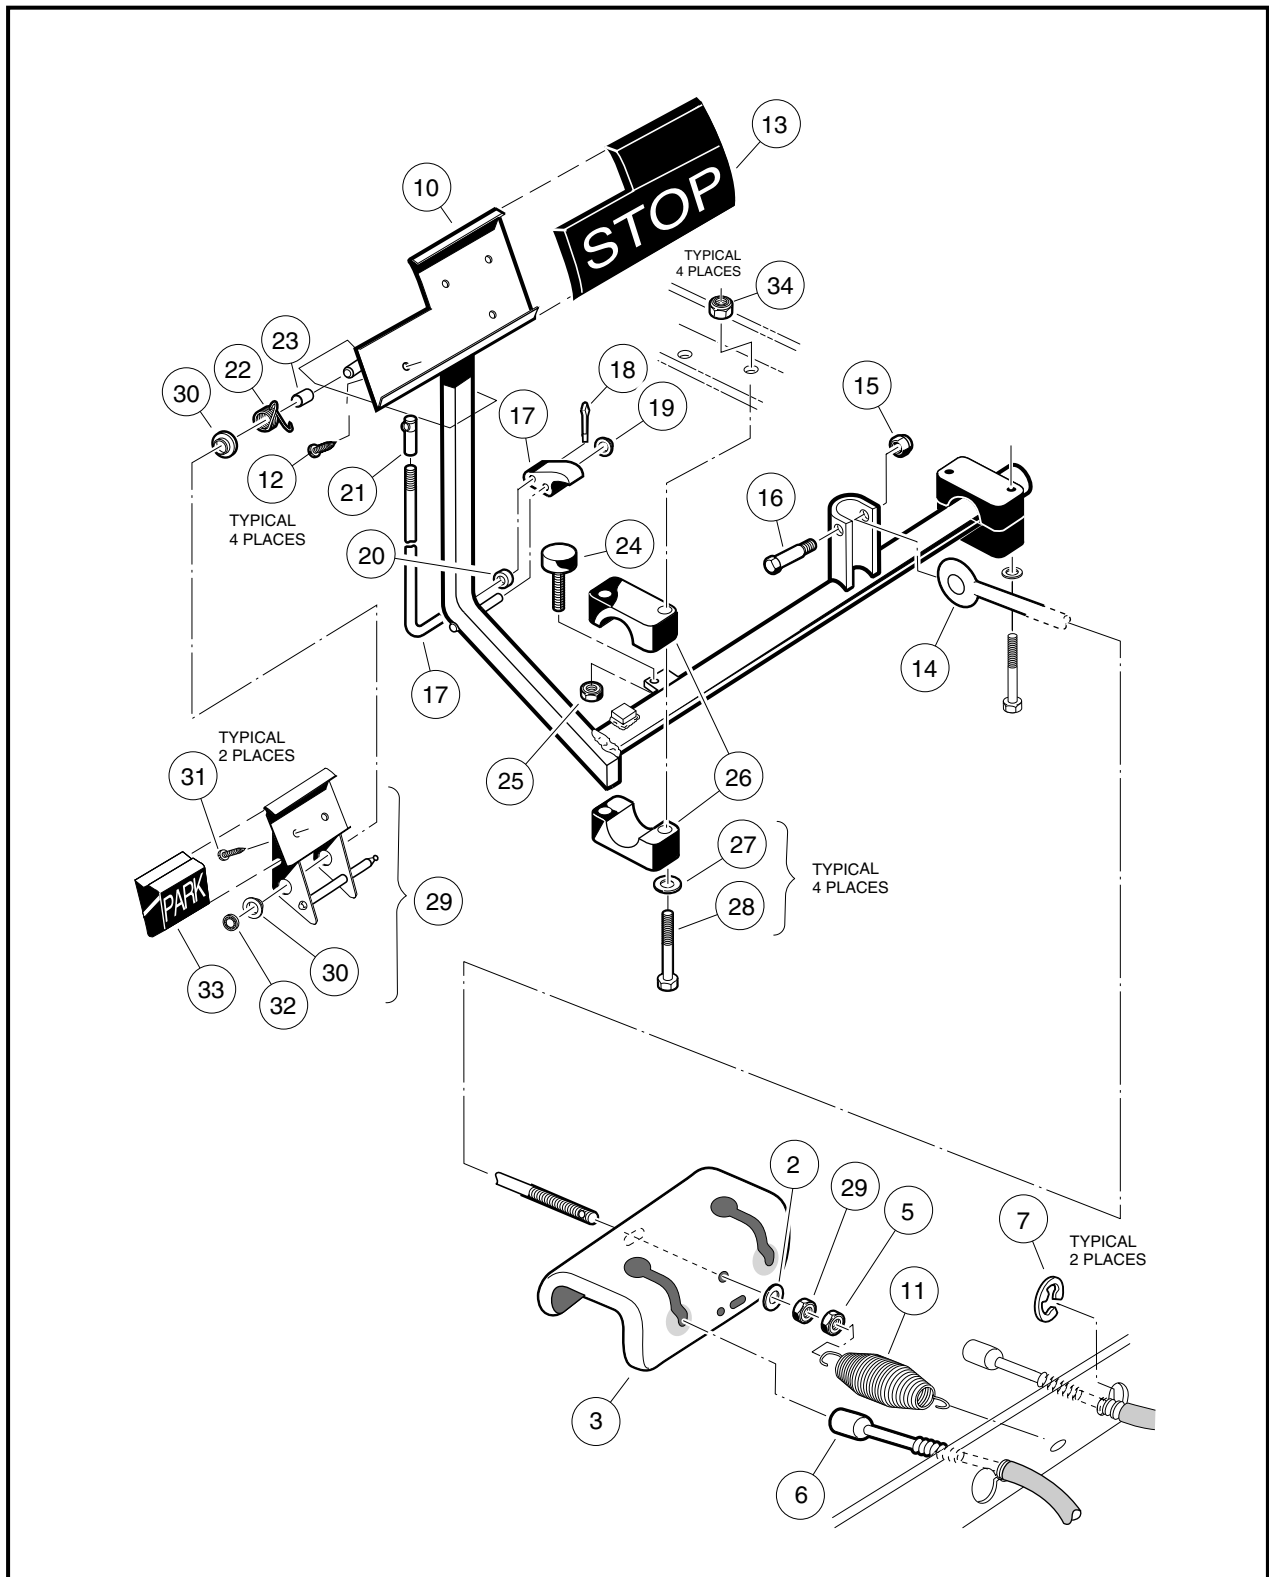
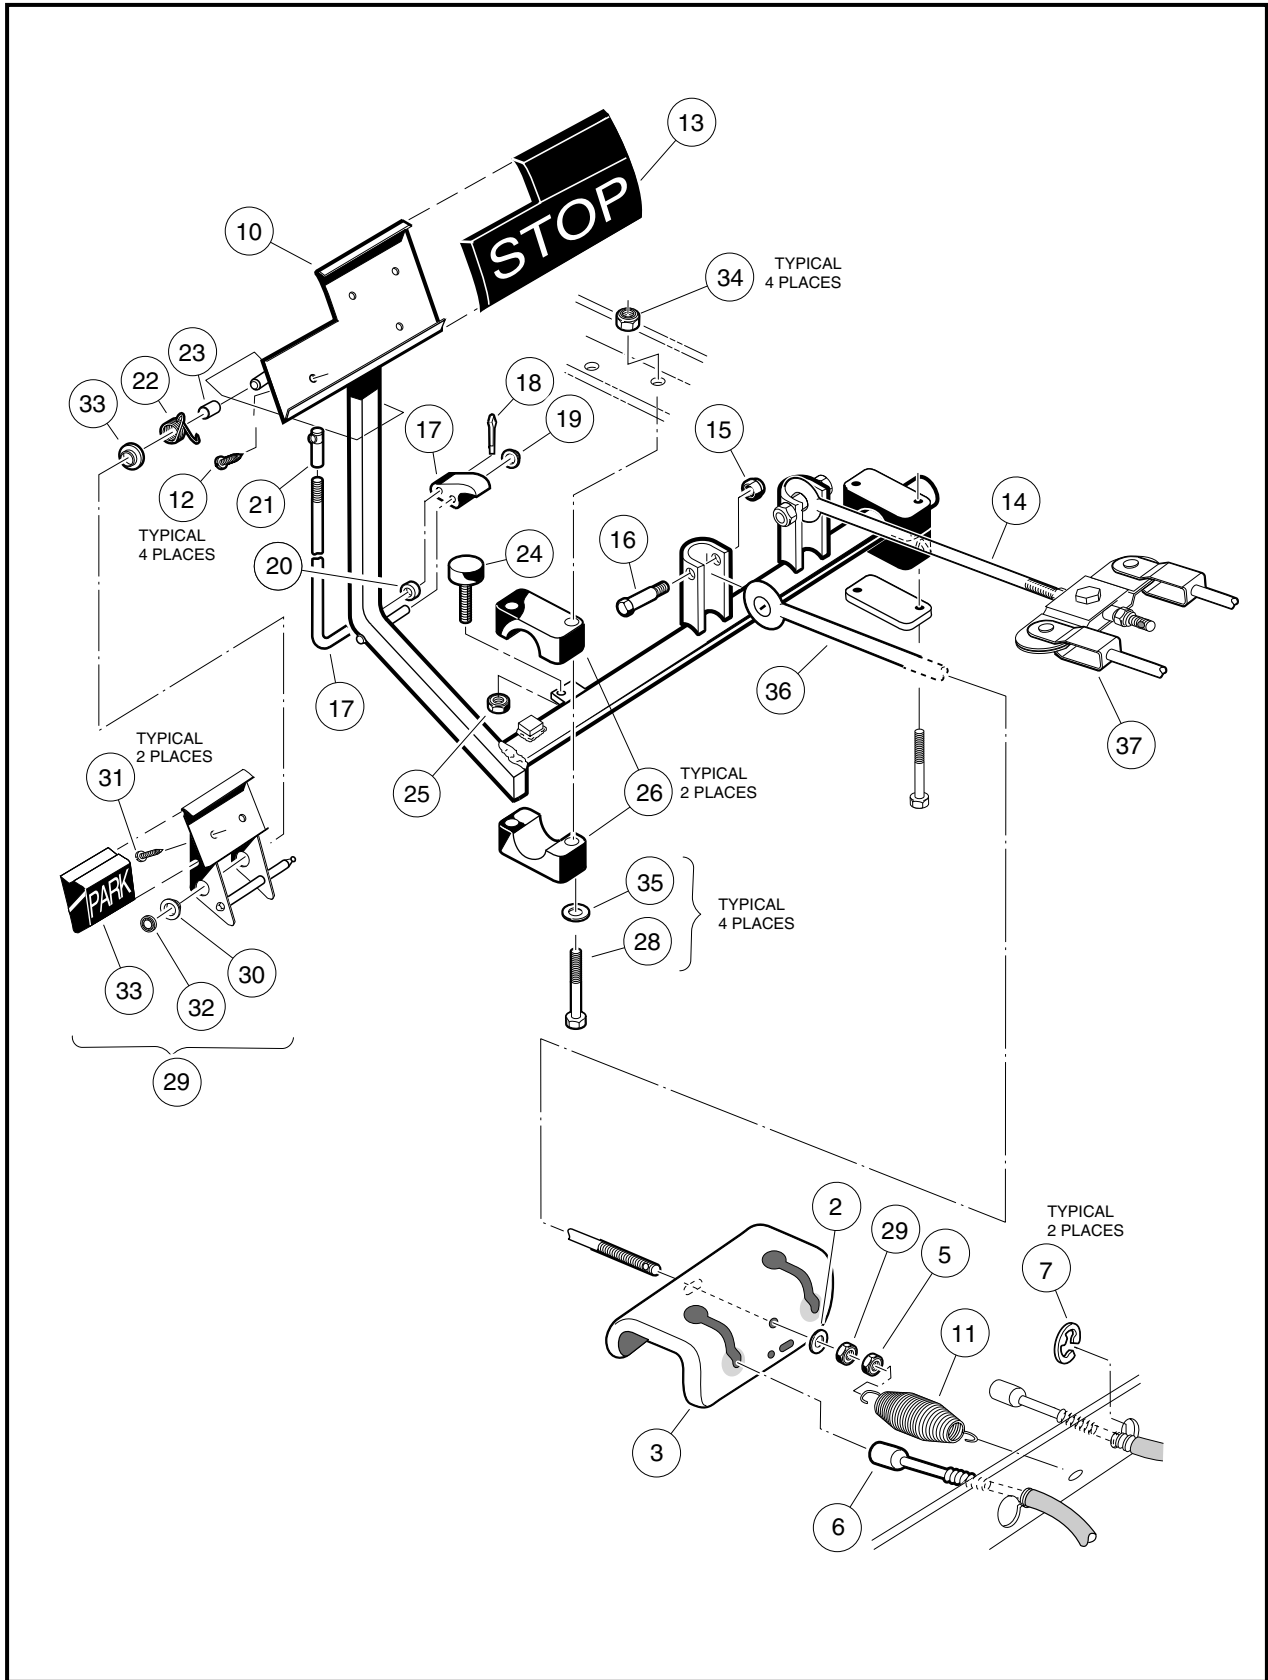

Figure 5-23 Brake and Park Brake Pedal Assembly and Mounting – Two-Wheel Brake Vehicles
Figure 5-24 Brake and Park Brake Pedal Assembly and Mounting – Four-Wheel Brake Vehicles
- 3.1. Remove nuts (34), flat washers (27 or 35), bolts (28), and mounting blocks (26) (**Figure 5-23, Page 5-15 or Figure 5-24, Page 5-16**). If the mounting blocks (26) show signs of excessive wear,
or are damaged, they must be replaced with new ones before installing pedal assembly (**Figure 5-23, Page 5-15 or Figure 5-24, Page 5-16**).
- 3.2. Remove shoulder bolts (16) and nuts (15) then disconnect the rod(s) (14 and 36) from the pedal shaft (**Figure 5-23, Page 5-15 or Figure 5-24, Page 5-16**). **NOTE: Four-wheel brake vehicles have two rod lock nuts.**
- 3.3. Remove the nut (25) and brake stop (24) (**Figure 5-23, Page 5-15 or Figure 5-24, Page 5-16**).
- 3.4. Lift the pedal assembly (10) through the floorboard (**Figure 5-23, Page 5-15 or Figure 5-24, Page 5-16**).
1. From the top side of the floorboard, insert the brake pedal weldment assembly (10) (**Figure 5-23, Page 5-15 or Figure 5-24, Page 5-16**) through the opening in the floor as shown (**Figure 5-25, Page 5-17**) and install the pedal stop (24) (**Figure 5-23, Page 5-15 or Figure 5-24, Page 5-16**) on the weldment.
2. Attach the equalizer rod(s) (14 and 36) to the brake pedal weldment assembly (10) as shown (**Figure 5-23, Page 5-15 or Figure 5-24, Page 5-16**). Tighten to 17 in-lb (23 N·m).
3. Position and attach brake pedal assembly and mounting blocks (26) to vehicle frame as shown. Tighten the bolts and nuts to 50 in-lb (6.5 N·m) (**Figure 5-23, Page 5-15 or Figure 5-24, Page 5-16**).
5. Tighten nut (25) on brake stop (24) to 8 ft-lb (9.5 N·m) (**Figure 5-23, Page 5-15 or Figure 5-24, Page 5-16**).
- 3.1. To remove the park brake rod and pawl assembly (17 through 20), remove the push-on nut (19) and disconnect the ball joint sleeve (21) from the park brake pedal (29) (**Figure 5-23, Page 5-15 and Figure 5-24, Page 5-16**). **See following NOTE.**